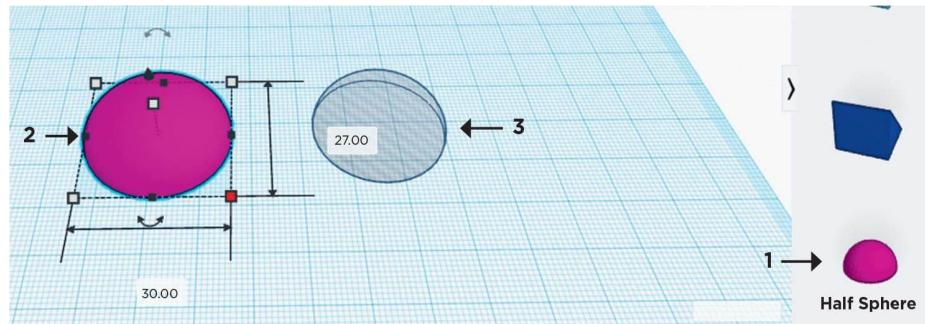

FIG. 1: Create one solid half-sphere and one half-sphere hole for the dome-shaped section of the pasta spoon.
1. Using a **Half Sphere** tool, create two half spheres. The large solid-half sphere is about 30 mm \times 30 mm, and the smaller one is a hole that is about 27 mm \times 27 mm and shown in fig. 1.